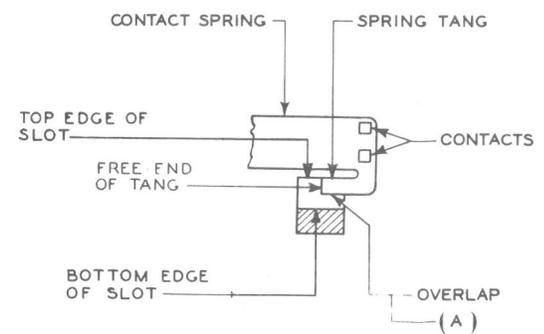

Fig. 3—Spring Tang Position
- (b) The spring tang shall overlap the spoolhead as shown in Fig. 3(A).
- (1) On relays manufactured prior to the second quarter of 1948, the full width of the spring tang shall lie entirely within the